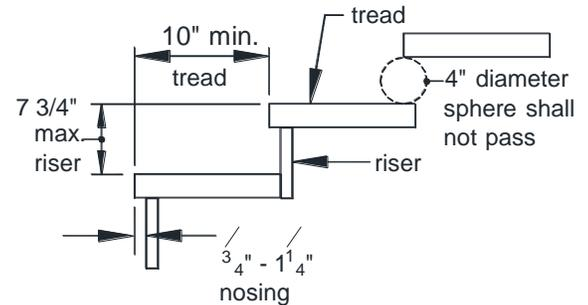

FIGURE 38: TREADS AND RISERS
- Stair geometry and opening limitations shall meet the requirements shown in FIGURE 38. Treads, risers and nosing dimensions shall not deviate at each step by more than $\frac{3}{8}$ inches.